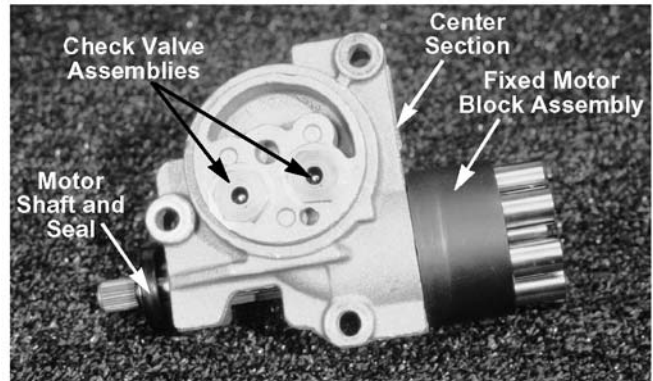

Figure 6-140
- D. Check valve assemblies (insure each check valve's bleed orifice is open) See Figure 6-140.